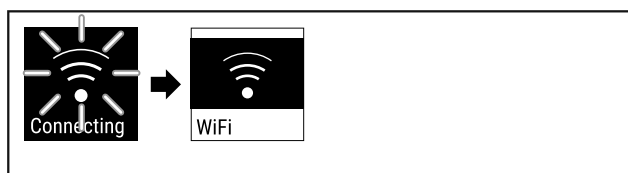

Fig. 76
- Connection is established (see Fig. 76).